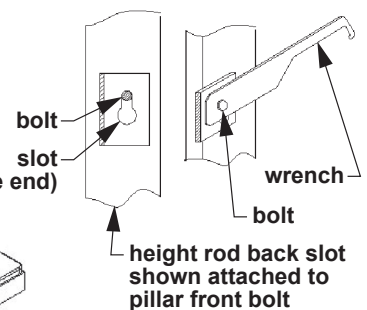

Fig. 8: Tighten Attachment Bolts
2. Use the included wrench to tighten the two hex head bolts as shown in Fig. 8. Do not overtighten.